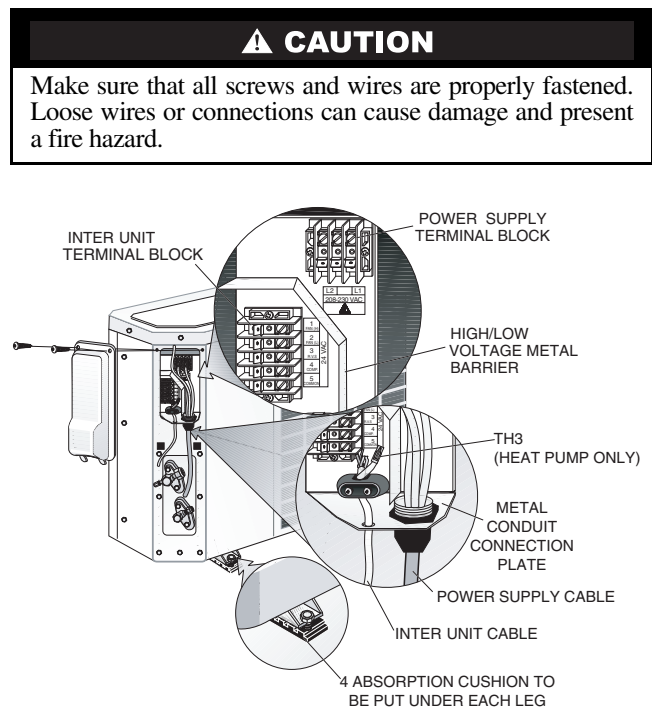

Fig. 13 — Legs and Mounting Base — Outdoor Units
2. Fasten the outdoor unit legs to the mounting base, as shown in Fig. 13. The cushion goes between the legs and the mounting base.
6. Secure the inter-unit electric and sensor cable to the outdoor unit with the clamp shown in Fig. 13.